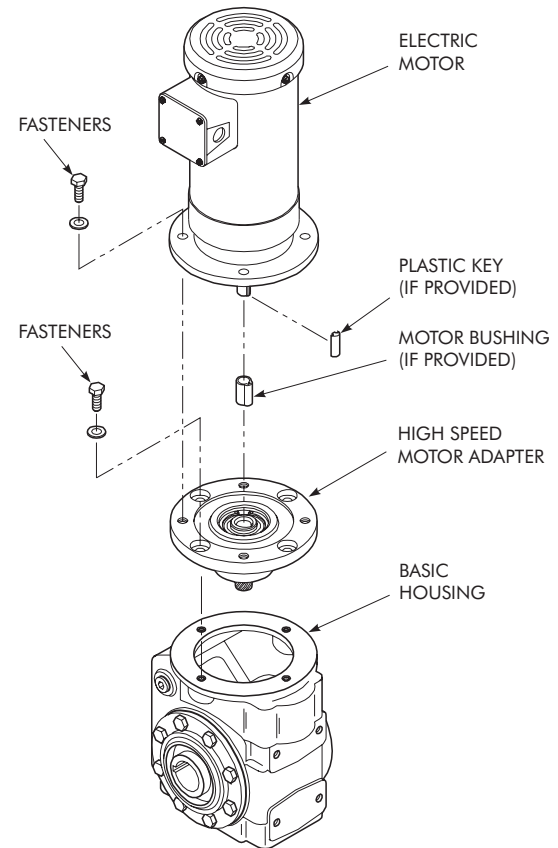

Figure 1
PROCEDURE G — Figure 1
1. Place basic housing on a workbench so that high speed end is facing up as illustrated in Figure 1 below. If necessary, block housing so that it is stable and level.